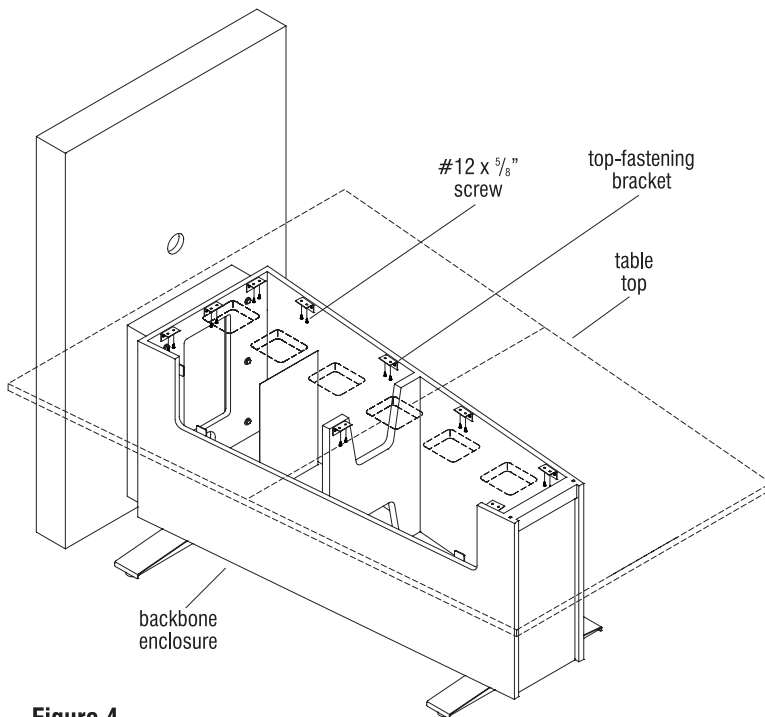

Figure 4
10. Carefully lift and rotate the assembled table top right side up onto the enclosure unit. The enclosure unit has several pre-installed "top fastening brackets", which align with pre-drilled holes on the underside of the assembled table top. Move the top around on the enclosure unit until all of the holes in the fastening brackets align with the pre-drilled holes in the underside of the table top. Secure top fastening brackets to underside of table top using #12 x 5/8" wood screws provided (Figure 4).